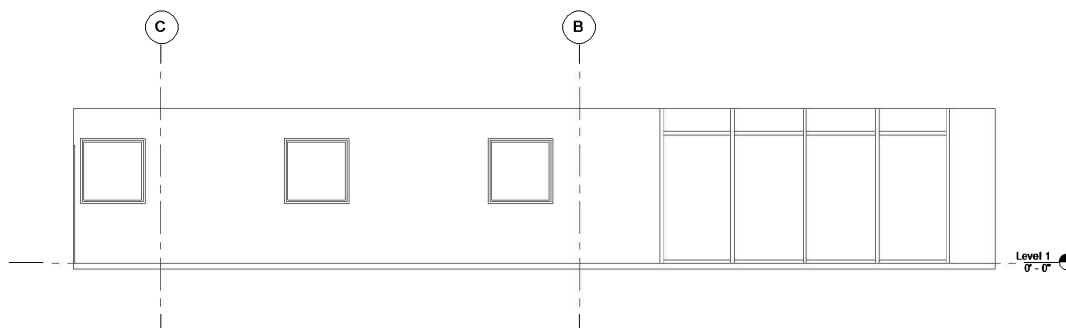

FIGURE 10-2.2 Lobby and Entry – East, initial view
Initially, your elevation should look something like Figure 10-2.2; if not, you will be adjusting it momentarily so do not worry. Next you will adjust this view. Notice how Revit automatically controls the lineweights of elements in section versus elements in elevations.
You should compare the two drawings on this page, Figures 10-2.2 and 10-2.3, to see how the control lines in the plan view dictate what is generated or visible in the elevation view, for both width and depth.
11. Now select **Undo** to return to the previous view (Figure 10-2.2).